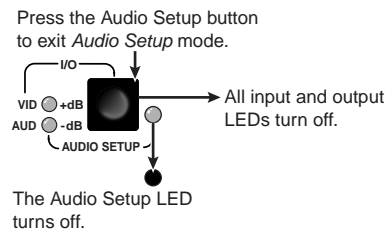

Figure 3-39 — Exit Audio Setup mode
5. Press and release the Audio Setup button (figure 3-39). All audio changes are saved.